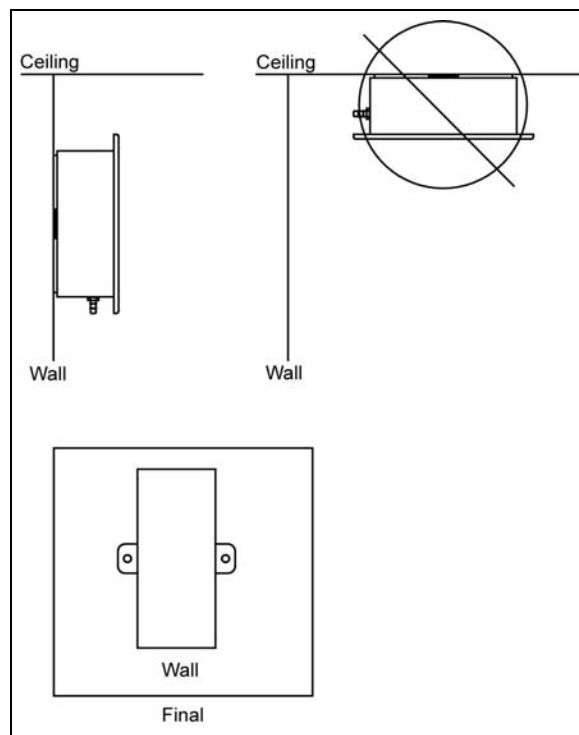

Figure 4: Pressure Transducer Mounting
7. Mount the pressure transducer within 10 feet of the flow station. The transducer must be mounted on a wall in the correct position per Figure 4 (screws not provided).